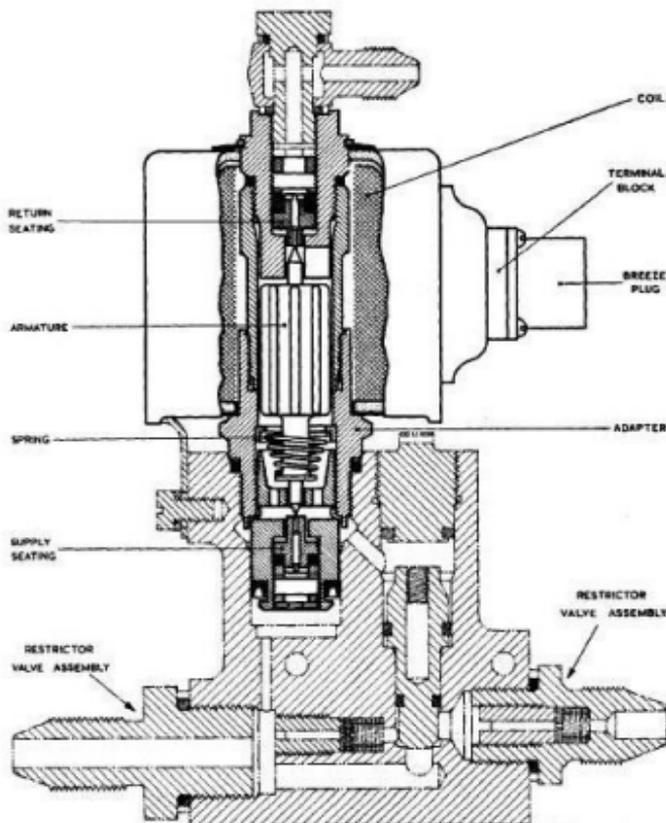

Fig. 3. Solenoid restrictor valve, Type CB83Y
8. This restrictor valve (fig. 3) is connected in the wing flaps circuit to provide a positive restriction throughout the full range of flap operation. It also provides an increased restriction to return flow from the flap jack between the MAXIMUM LIFT and UP position on the upward movement only.